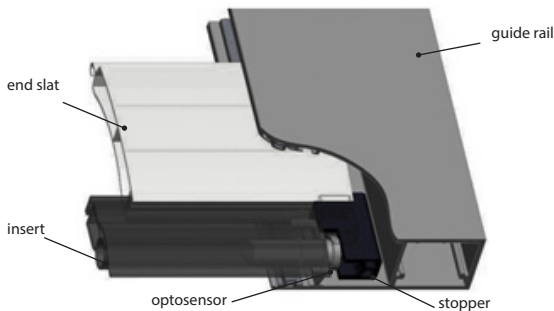

Fig. 4 Layout of safety edge components
- optosensors are installed in the insert of the end slat. Stoppers are installed in the end slat from the both sides to protect optosensors against damages (Fig. 4)